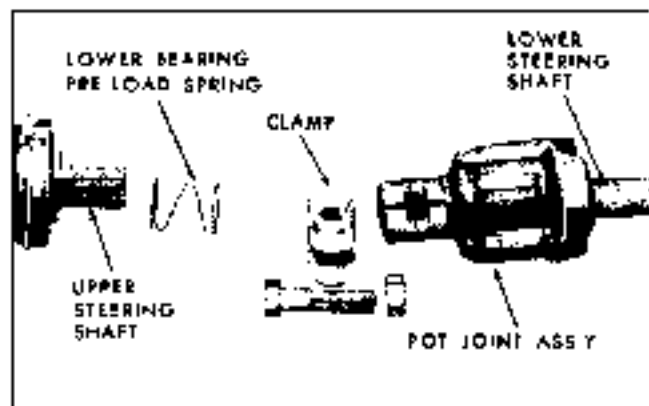

Fig. 9-17 Removing Pot Joint and Lower Shaft from Upper Steering Shaft (Tempest Only)
3. Mount column in vise, using tool J 22373 (Fig. 9-15) or by clamping one tapping plate in a vise (Fig. 9-16). On Tempest models disconnect lower shaft and pin joint from upper shaft by removing clamp (Fig. 9-17) if pin joint is to be serviced.